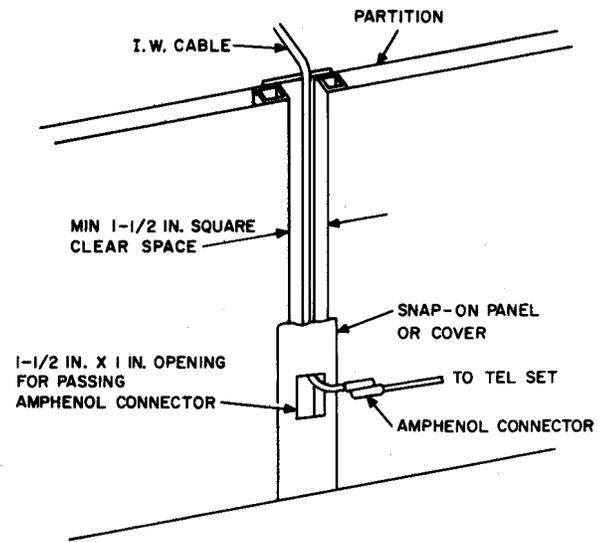

Fig. 12—Partition Design
- (b) A 1-1/2 inch square clear space between partition sections with snap-in panel or cover (Fig. 12).